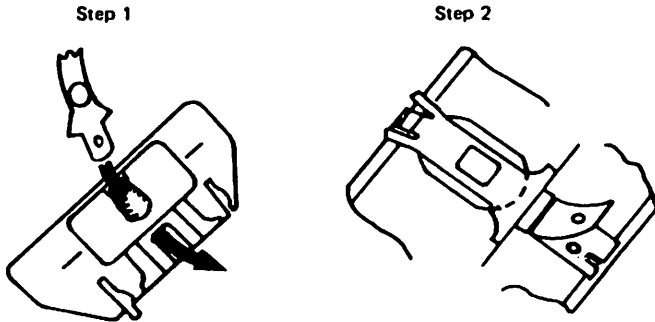

Figure 43 Installing the print mask
6. If necessary to replace the print mask, install the print mask on the cardholder as shown in Figure 43).